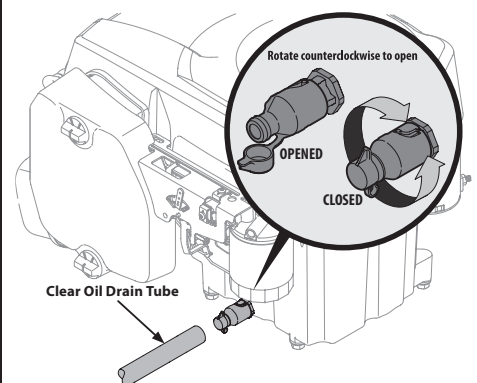

Figure 4-1
- Pop open the protective cap on the end of the oil drain valve to expose the drain port. See Figure 4-1.